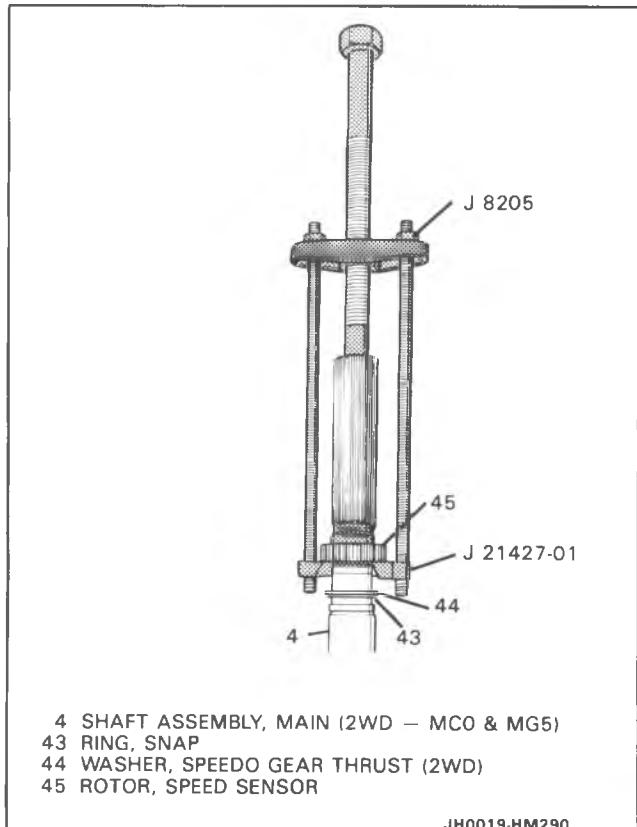

Figure 19 Removing Speed Sensor Rotor
- Slide the snap ring (43) and washer (44) away from the rotor to make clearance for J 21427-01 (Figure 19).
5. Speed sensor rotor (45) using J 21427-01 and J 8105